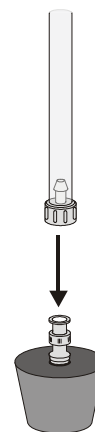

Figure 2
8. Connect the free-end of the plastic tubing to the connector in the rubber stopper as shown in Figure 2. Click to begin data collection. Data collection will end after 3 minutes.